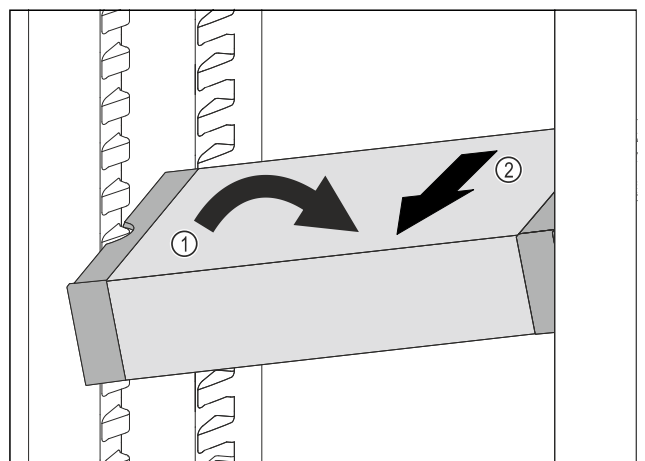

Fig. 149
- ▶ Set VarioSafe in refrigerator compartment at an angle. Fig. 149 (1)
- ▶ Take VarioSafe out to the front. Fig. 149 (2)